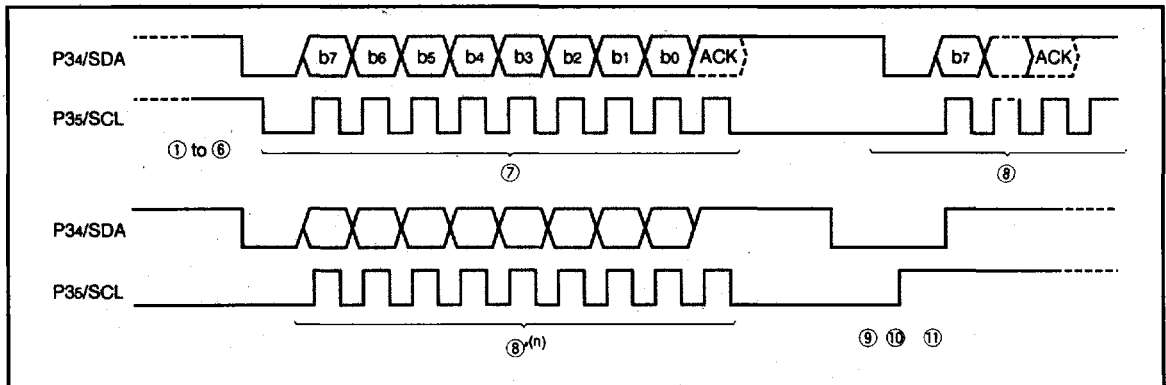

Fig. 16 Master transmission timing
Figure 16 shows master transmission timing explained above. (the numbers in this figure are correspond to above explained numbers.)
(2) Master Reception
Master reception is carried out in the interrupt routine after data is transferred by master transmission. For master transmission and interrupt thereafter, see the preceding section (1) Master transmission (the process until ⑦ in Figure 16.)
- ⑫ In the interrupt routine, set master reception ACK provided (2216) in the special mode register 1 (address 00F716).
- ⑬ Write "FF16" in the special serial I/O register (address 00F616). This sets data line SDA to "H" and to perform 8-clock master reception. Then, a clock of "L" is transmitted to data line SDA for ACK receiving. In the ACK provided mode, the above ACK is automatically sent out.
- ⑭ Repeat the above receiving operation for a necessary number of times. Then return to the master transmission mode and transmit the stop signal by the same procedure for the master transmission (the process from ⑨ to ⑪ in Figure 16.)